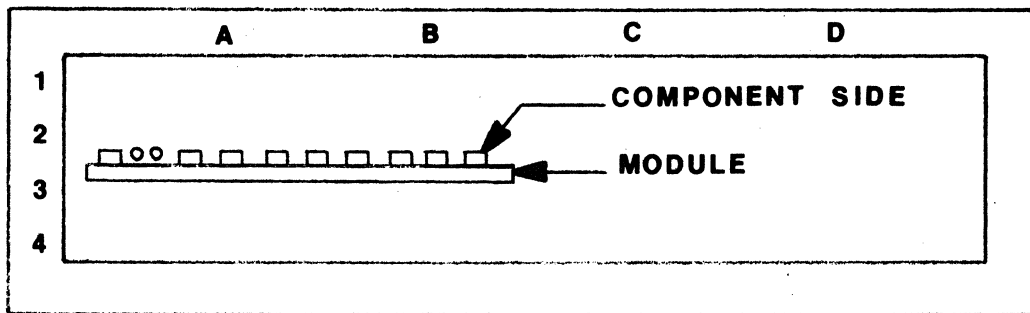

FIGURE 2.2 MODULE ORIENTATION
- 2.9.1 The memory module must be inserted into the backplane with components facing row 1 as shown in Figure 2-2.